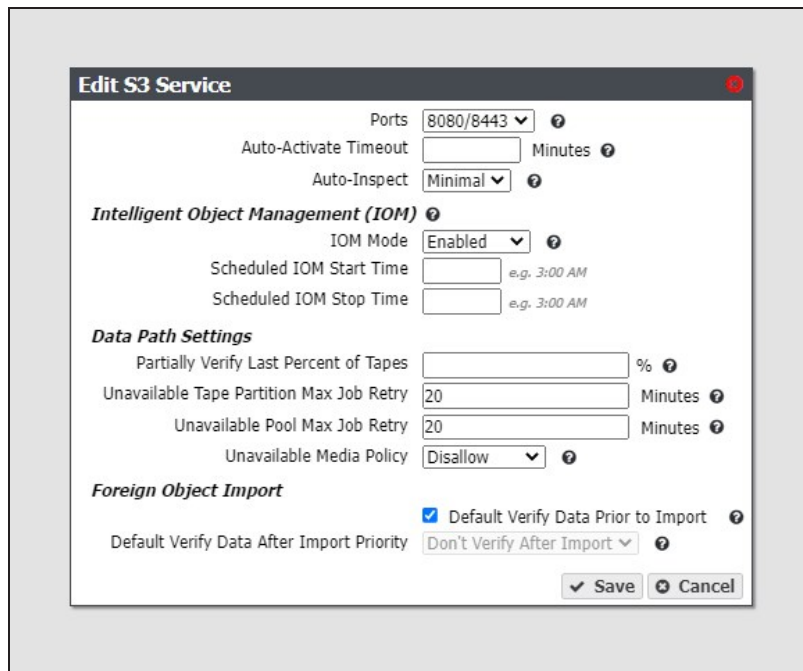

Figure 242 The Edit S3 Service dialog box.
- c. On the S3 service details screen, select **Action > Edit**. The Edit S3 Service dialog box displays (see Figure 242 on page 326).